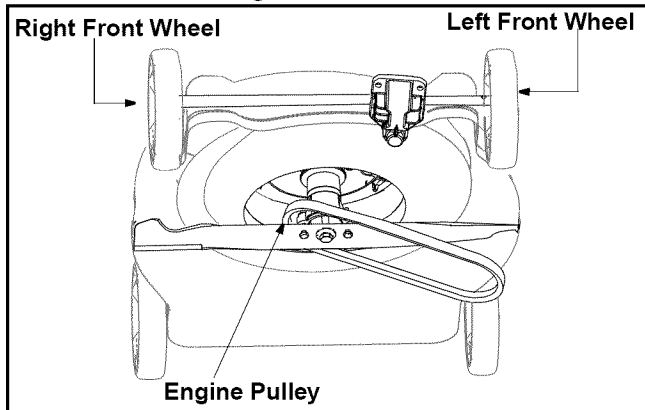

Figure 16
- Remove the belt from the engine pulley and around the blade. See Figure 16.